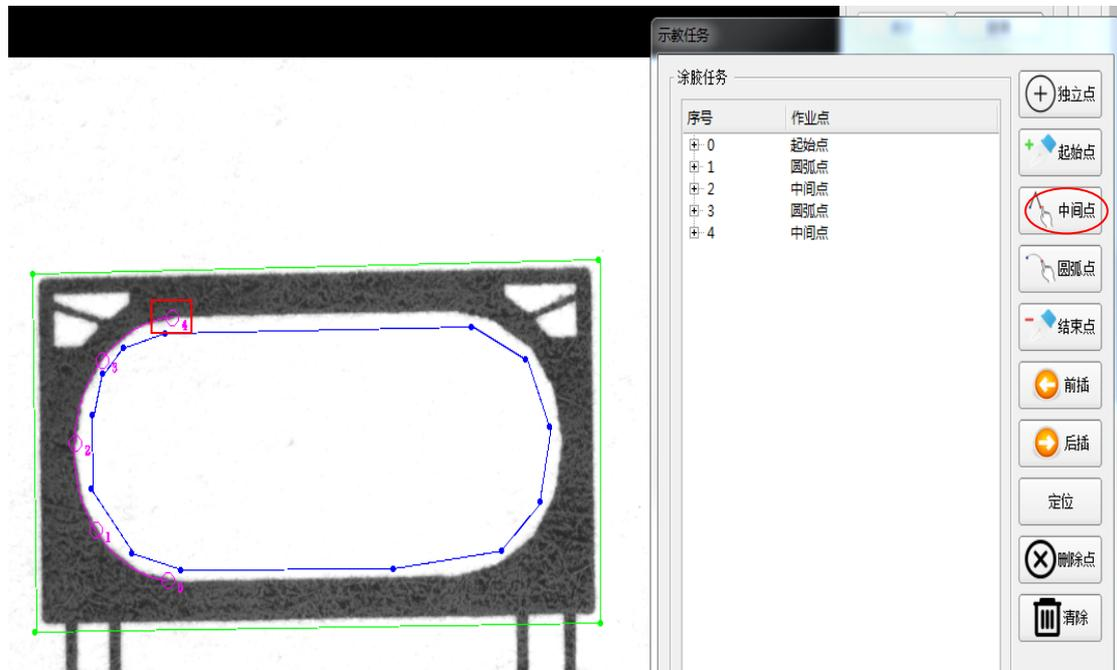

Figure 33 Middle point adding
5) Add the middle point near the intersection of arc line and straight line, after the middle point, as shown in figure 33;